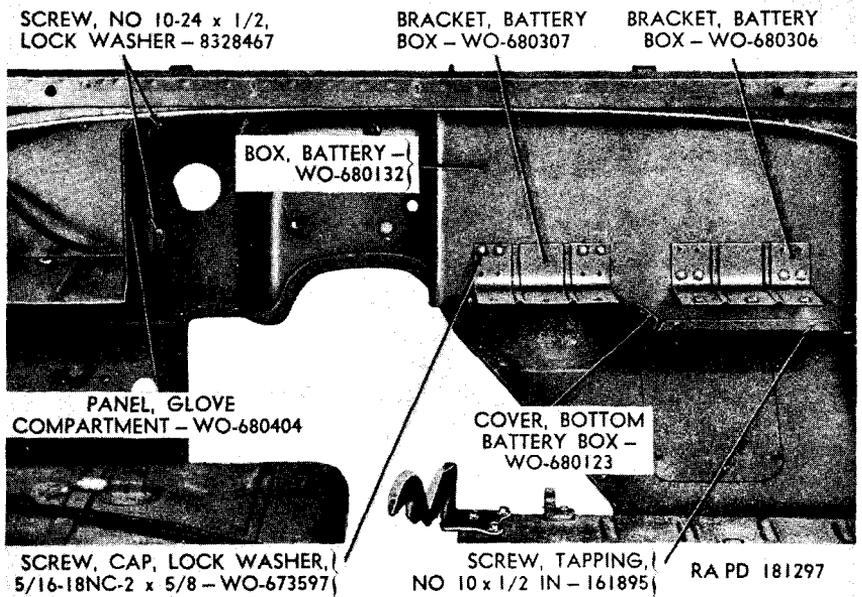

Figure 161. Body with instrument panel removed.
- (7) Remove four lockwasher cap screws (fig. 161) (accessible from inside of battery box), securing each battery box bracket to battery box, and remove brackets. These attaching screws also secure bottom battery box tray.
b. *Glove Compartment Panel* (fig. 161). Remove two lockwasher screws securing right side of glove compartment panel to fire wall. Remove three lockwasher screws securing bottom of glove compartment panel to dash panel. Remove glove compartment panel from fire wall.
b. Remove four tapping screws (fig. 161) which secure rear of the bottom battery box cover to battery box. Remove four tapping screws which secure rear of cover to fire wall and remove the cover.